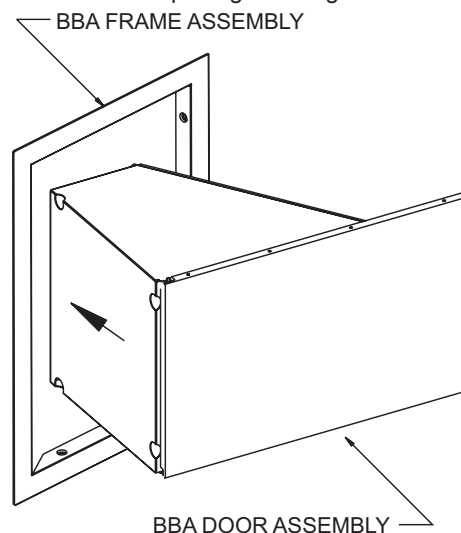

Figure 2
2. While positioned on its side, place the BBA Door Assembly into the BBA Frame opening. See Figure 2.